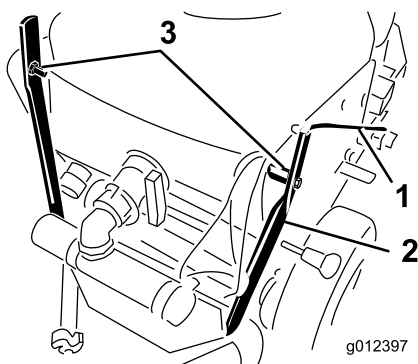

Figure 3
1. Remove the hairpin cotter, washer and cable tie securing the shift rod for shipping (Figure 3). Retain hairpin cotter and washer for installation of the shift rod.
2. Remove the (2) bolts, spacers and nuts securing the handle to the tank support (Figure 3). Discard the bolts, spacers and nuts.